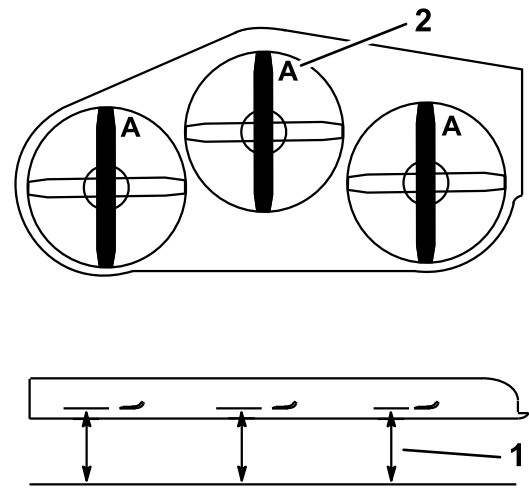

**Figure 86**
2. Loosen both the front and rear nuts on the adjustment rods (Figure 86).
3. The weight of the mower deck must be resting on all three of the 2x4's (Figure 86). The back lip of the mower deck is built a 1/4 inch (6mm) lower than the front lip of the mower deck.
6. If the dimensions are not correct, adjust the front and rear nuts on either side to get the correct front-to-rear pitch (Figure 86).